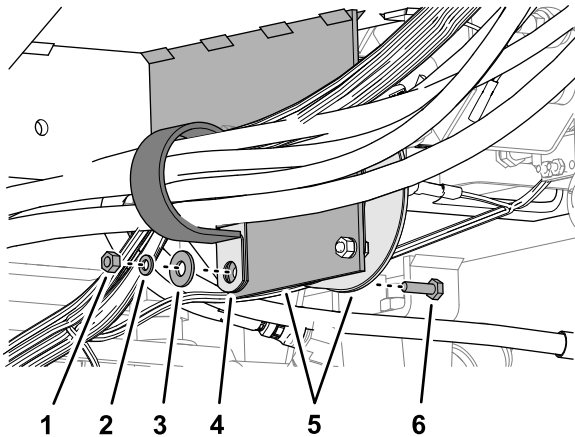

Figure 90
1. Under the floor plate, secure the hoses and wire harnesses to the clutch and clutch plate as shown in Figure 90 with the support clamp, capscrow (1/4 x 7/8 inch), nut (1/4 inch), lock washer (1/4 inch), and washer (3/8 x 7/8 inch) that you removed in Removing the Hose Support Clamps (page 11).